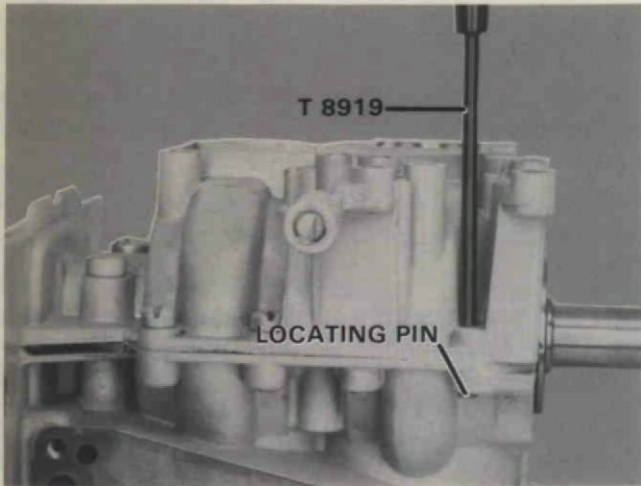

Figure 18. Removing Locating Pins.
B. Drive out two (2) locating pins. Special Tool No. T 8919. Figure 18.